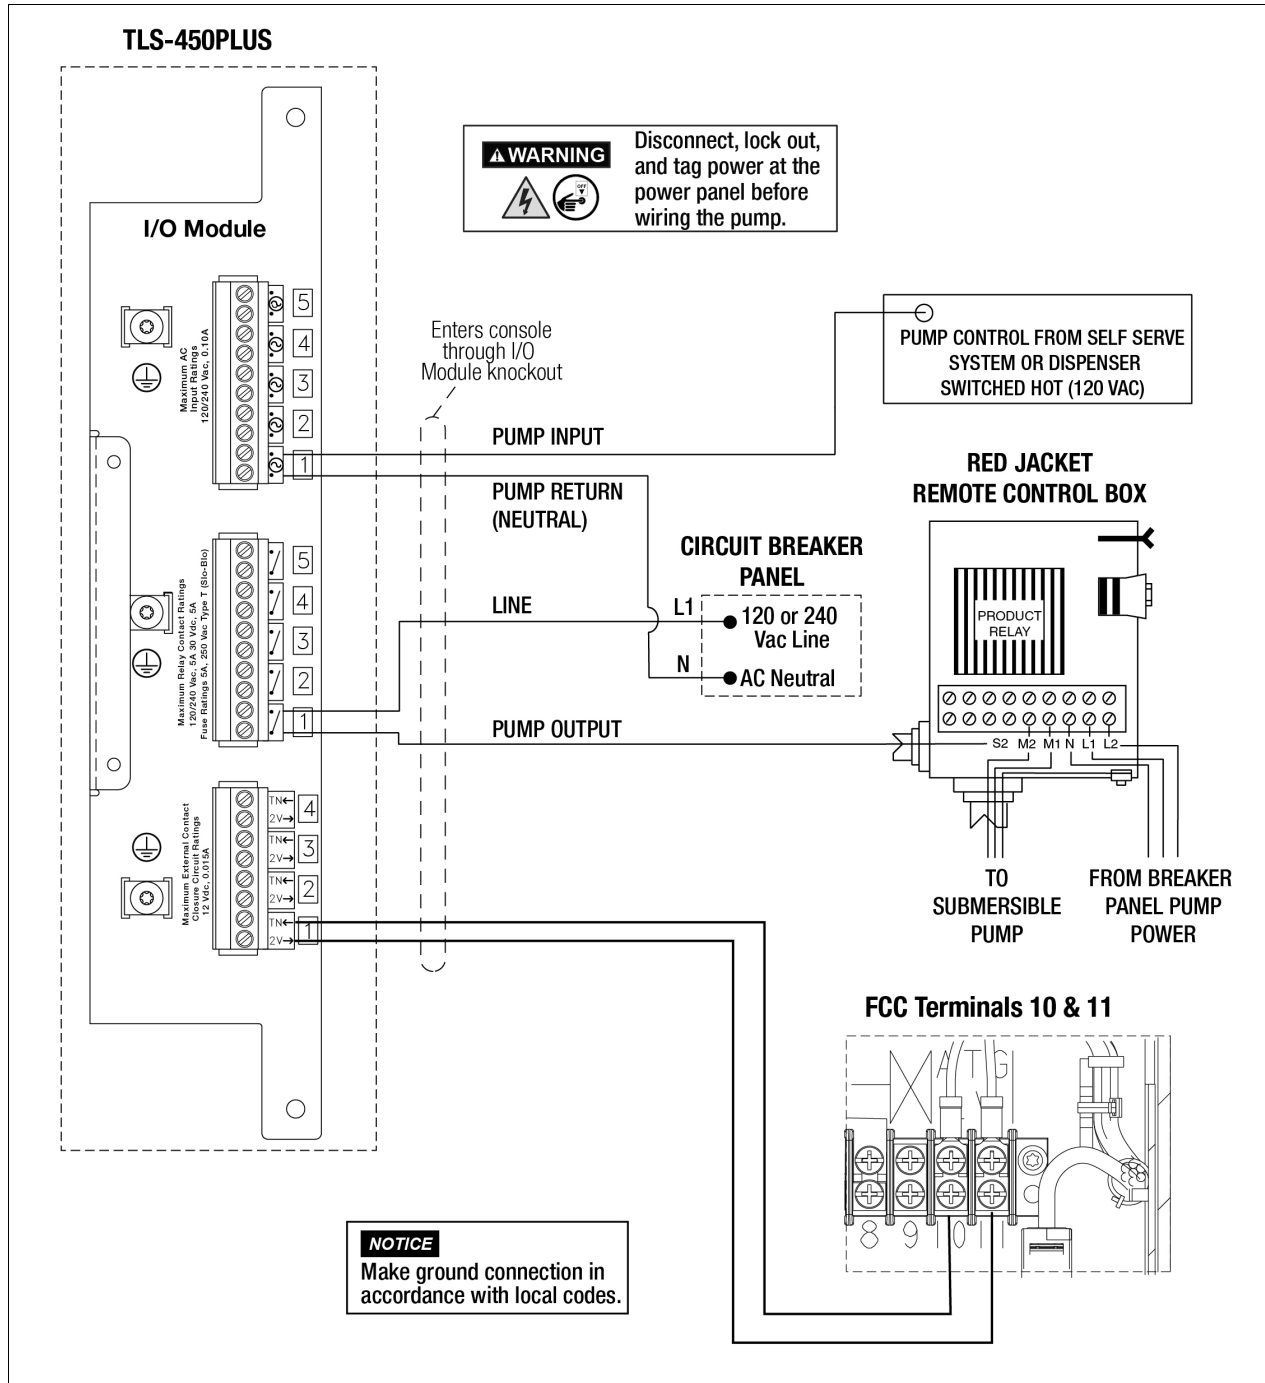
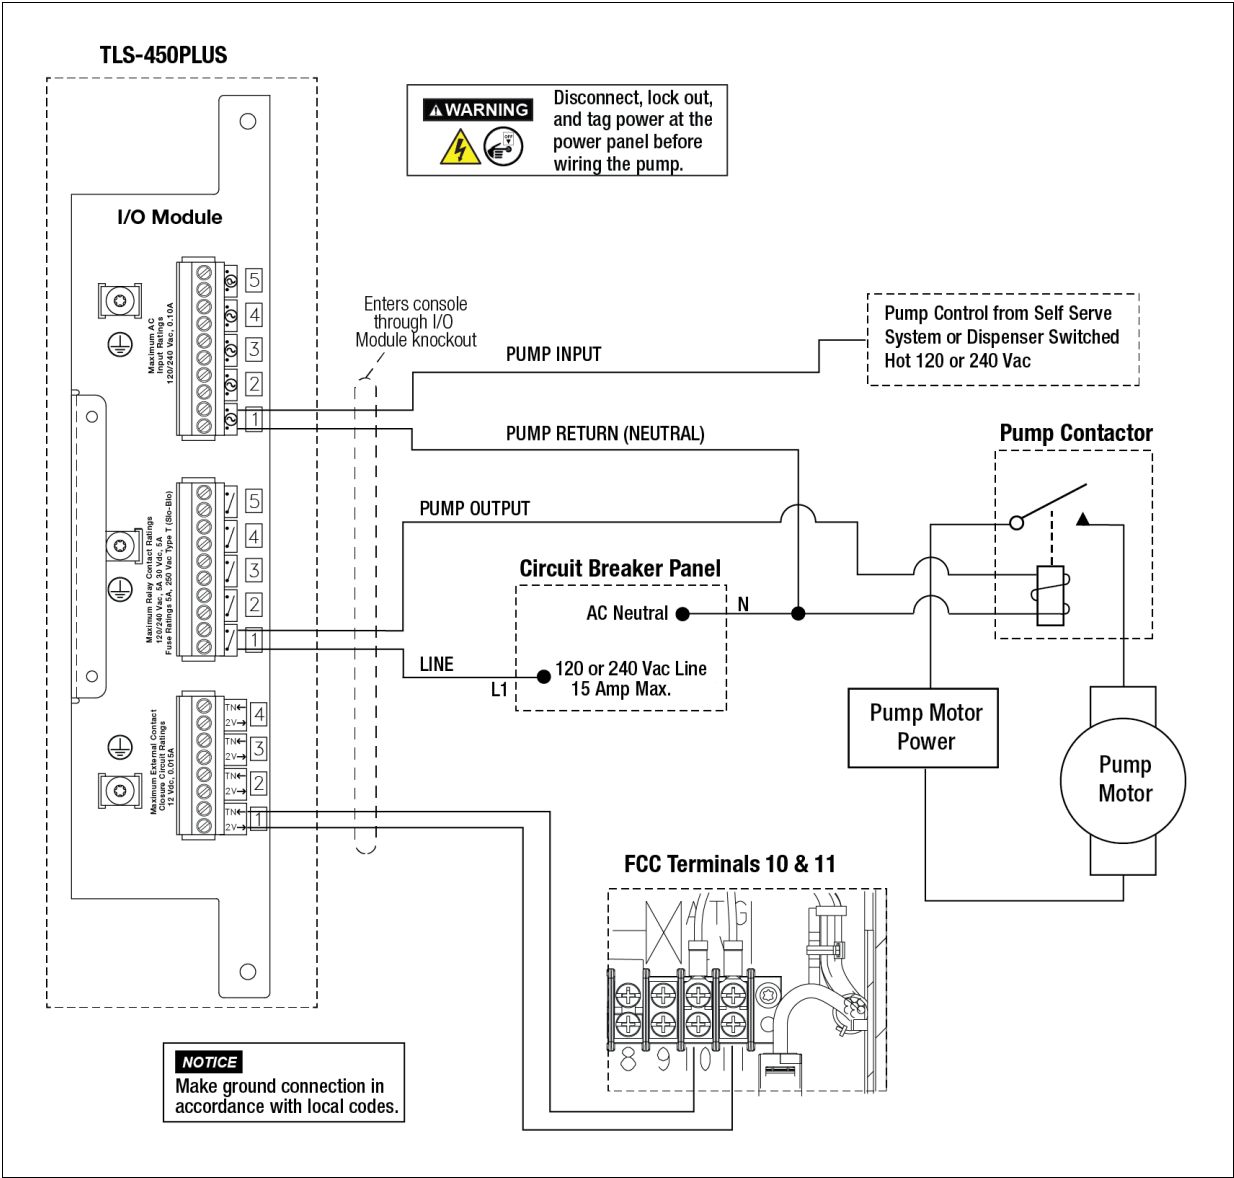

Figure 28. FCC and STP Interconnection Wiring Diagram (w/ RJ Relay Control Box)
Figure 29. FCC and STP Interconnection Wiring Diagram (w/o RJ Relay Control Box)
- Figure 28 - I/O module wiring connections - provides FCC status to the ATG
Figure 28 diagrams STP control wiring with a RJ Relay Control box and Figure 29 without a RJ Relay Control box.